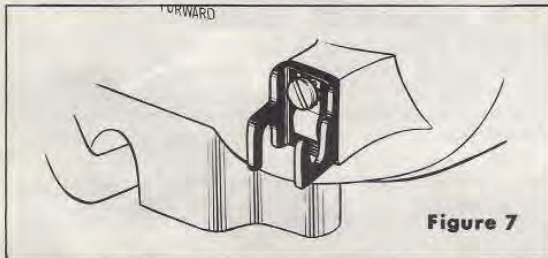

Figure 7
1. Attach **BLACK** bracket to starboard side of motor with screw, lockwasher and clip provided (see Figure 7). **NOTE:** On 1958 Larks, an additional bracket (enclosed in Tool Kit Bag) must be attached to motor, and **BLACK** bracket mounted on this bracket.